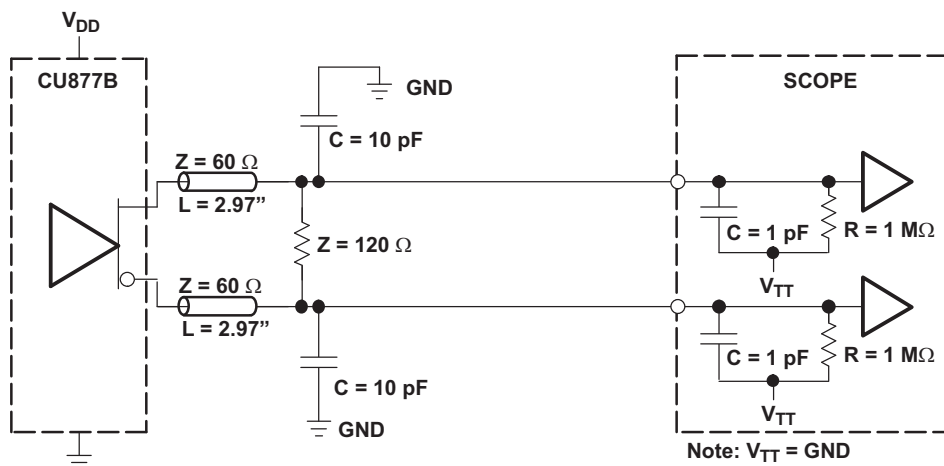
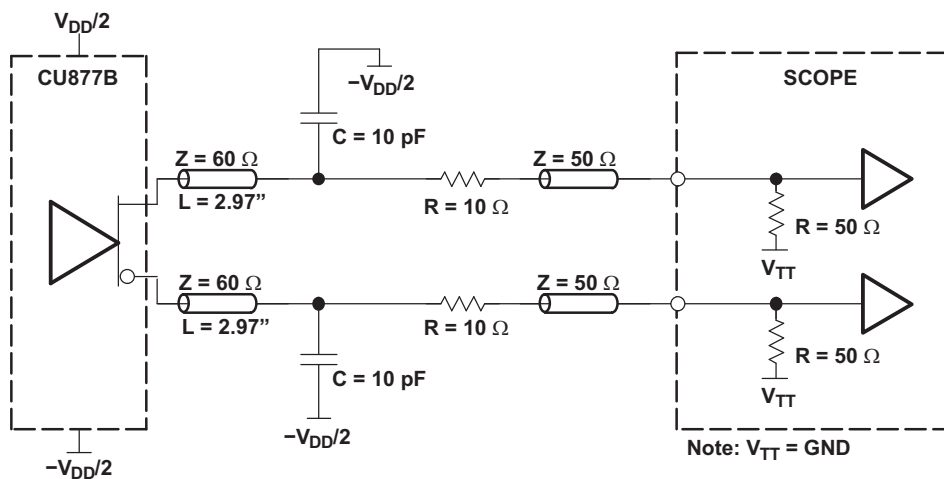

Figure 2. Output Load Test Circuit 1
Figure 3. Output Load Test Circuit 2
(1) There are two different terminations that are used with the following tests. The load/board in Figure 2 is used to measure the input and output differential-pair cross voltage only. The load/board in Figure 3 is used to measure all other tests. For consistency, equal length cables must be used.
(2) This parameter is specified by design and characterization.
(3) Phase static offset time does not include jitter.
(4) Period jitter, half-period jitter specifications are separate specifications that must be met independently of each other.
(5) The output slew rate is determined from the IBIS model with a 120- Ω load only.
(6) To eliminate the impact of input slew rates on static phase offset, the input skew rates of reference clock input CK and \overline{CK} and feedback clock inputs FBIN and \overline{FBIN} are recommended to be nearly equal. The 2.5-V/ns skew rates are shown as a recommended target. Compliance with these typical values is not mandatory if it can adequately shown that alternative characteristics meet the requirements of the registered DDR2 DIMM application.
(7) Output differential-pair cross voltage specified at the DRAM clock input or the test load.